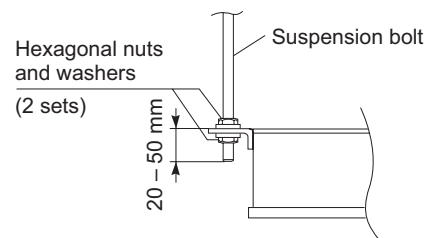

Fig. 1-23
- (3) Suspend and fix the indoor unit using the 2 hexagonal nuts (field supply) and special washers (supplied with the unit) as shown in Fig. 1-23.